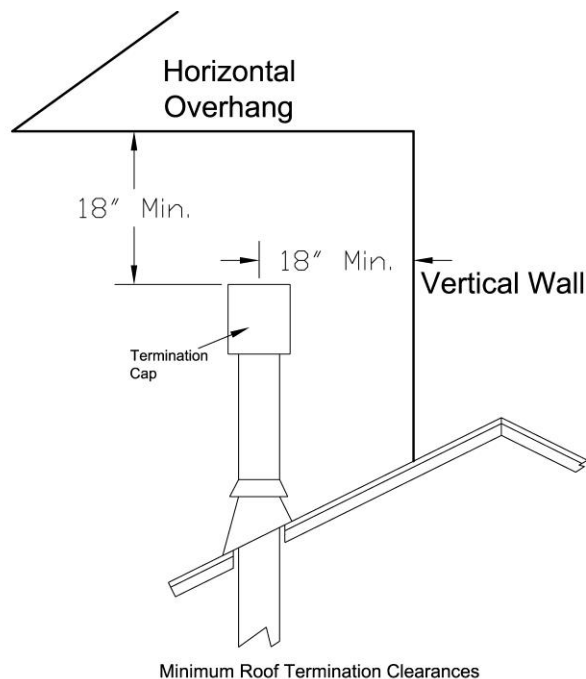

Figure 15 - Termination Cap clearances
- 🔥 All termination caps must be no less than 18" (457mm) horizontally from any roof or vertical surface. See Figure 15.
- 🔥 The termination must fall within the area shown in Figures 15 & 16.
- 🔥 All horizontal terminations must also comply with the clearance specifications to adjacent structures outlined in Figures 15 & 16.